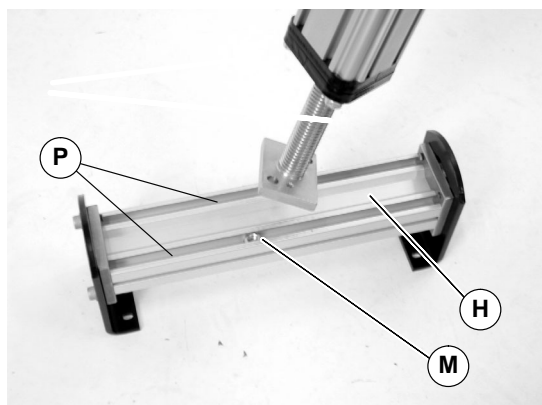

Figure 14
8. Position the conveyor mounting bracket and cross-member tube assembly (H of Figure 14) so there is access to the underside t-slots (P) and hex nuts (M).
11. To center the conveyor mounting bracket (H of Figure 14), position the “Attach Here” sticker (T of Figure 16) with the end plate (S) of the stand top screw assembly.